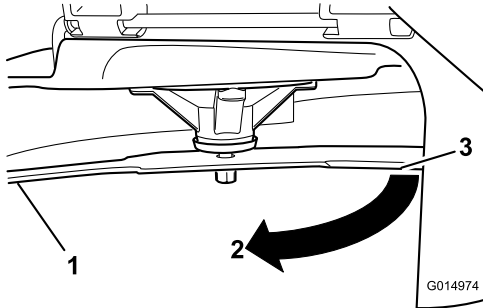

Figure 52
4. Rotate the same blade 180 degrees so that the opposing cutting edge is now in the same position (Figure 52).